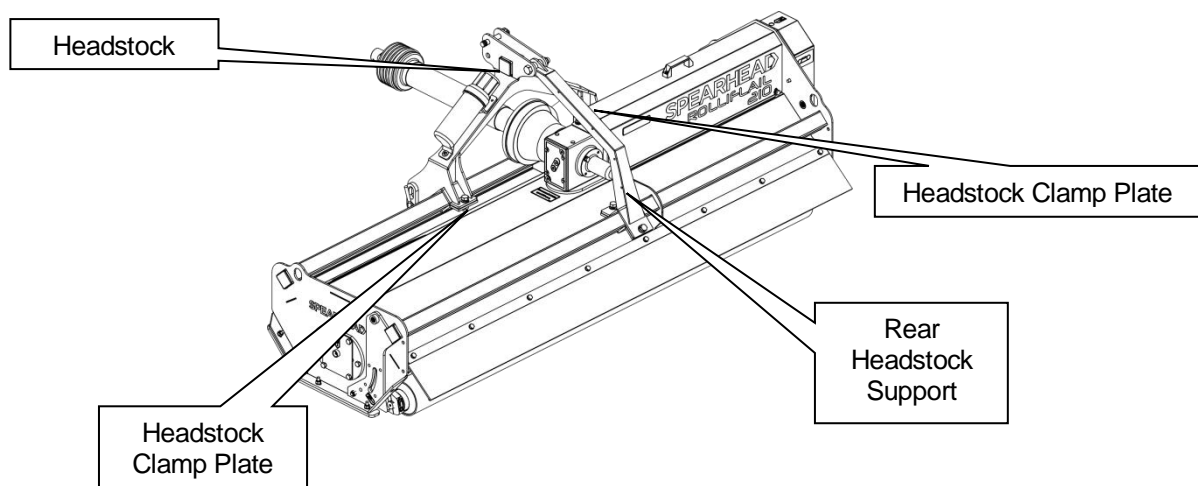

Figure 1.8
- 1.5.1.2 The machine is normally supplied configured for rear mount and 540rpm PTO drive, see Figure 1.8.